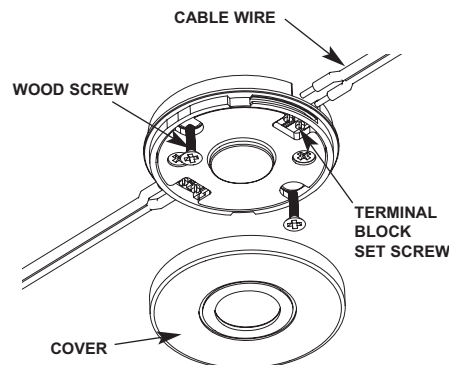

Figure 1
Step 3. To surface mount fixture use the template (Fig. 3) to drill two pilot holes for the wood screws before attaching the fixture to mounting surface (Fig. 1.) For a typical under-kitchen cabinet installation, it is recommended to space fixtures 9" to 9-1/2" from back wall to fixture center for even illumination of counter and backsplash. Wiring from transformer to fixture, and fixture to fixture can be handled two ways. **Option-1:** wiring exposed on the underside of the cabinet (Fig 1). When using option-1 with exposed wiring, it may be easier to wire fixtures before they are installed to mounting surface. Mark the center points of fixtures on mounting surface and drill mounting pilot holes (Fig 3). Take your fixture center-to-center measurement. By subtracting 2" from this dimension, you will have the wire length required to connect fixtures together (refer to wiring diagram). **Option-2:** bring wires in from above fixture mounting surface (Fig 2). When using option-2 use the template (Fig 3) to drill two holes for wiring to pass through mounting surface (Fig 2). For optimal, even illumination, it is recommended to space fixtures 18" apart. However, fixture spacing less than or more than 18" will still provide high-quality lighting performance.
Step 5. Secondary wiring is not polarized. After inserting leads into terminal, tighten terminal block set screws securely to retain wires to 4 in-lb minimum (Fig. 1.) Make certain no bare conductors are exposed after attachment to terminals.